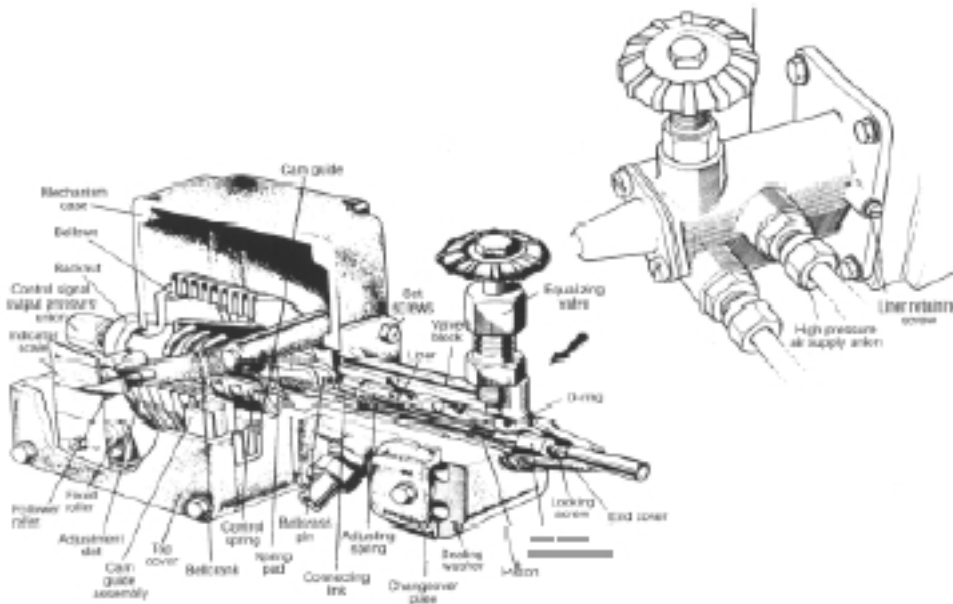

FIG. 5 POSITION CONTROL UNIT
4.4 POSITION CONTROL UNIT (Fig. 5)
4.4.2 Disassembly of the Unit (Fig. 5)
4.5.1 Linear Cam (Fig. 5)